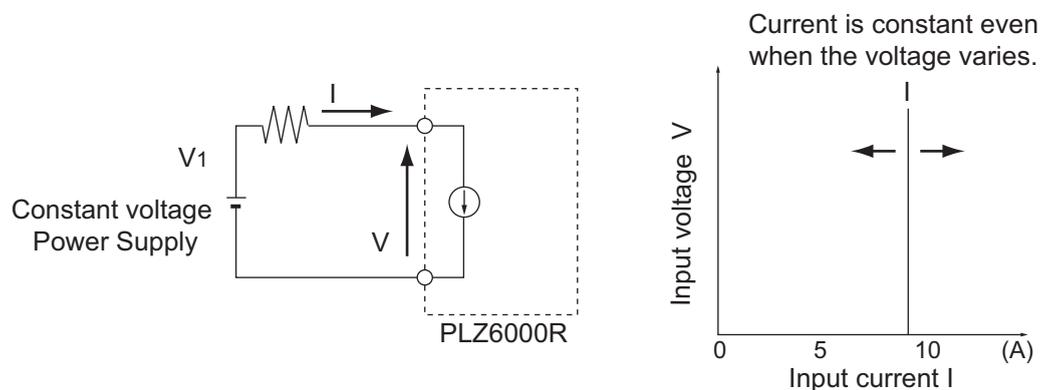

Fig.A-2 Equivalent circuit of the constant current load and operation
When the PLZ6000R is used in CC mode, the PLZ6000R operates as a constant current load as shown in Fig.A-2. The PLZ6000R sinks the specified current (I) independent of the output voltage of the constant-voltage power supply (V_1).